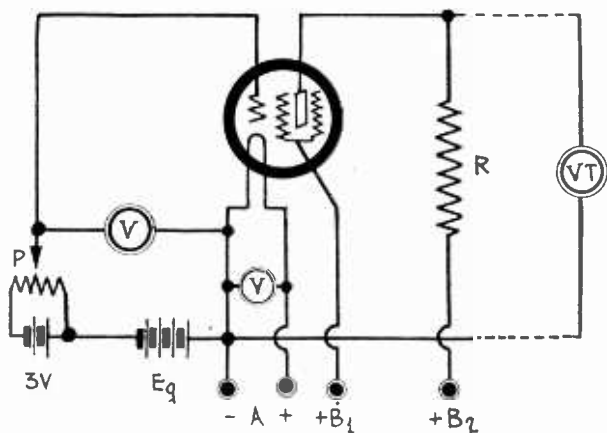
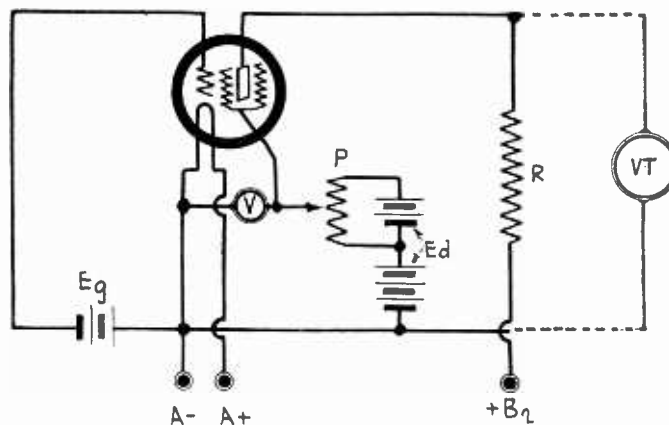
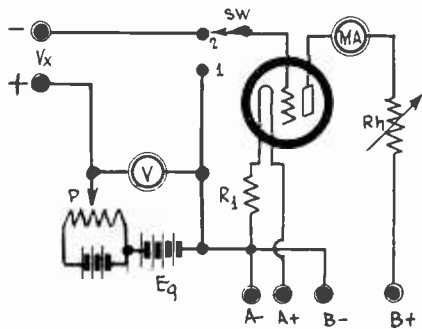

FIG. 60
FIG. 63
FIG. 66
The best way of taking such curves is by means of a circuit such as is suggested in Fig. 60. The voltmeter connected between the control grid and the filament indicates the applied grid bias and the meter across the filament indicates the filament voltage. This voltage should be kept at 2 volts with the aid of a rheostat in the positive filament lead. The rheostat is not shown. R is the load resistance and VT indicates a vacuum tube voltmeter which should be adjusted so that it draws no current.
The arrangement for taking such curves is shown in Fig. 63, in which E_g represents the fixed control grid bias, E_d the adjustable screen voltage, which is measured by means of V, and R represents the plate load on the tube. P is the same 400-ohm voltage divider as was used in Fig. 60, and VT is the same or a similar vacuum tube voltmeter.
The circuit of a vacuum tube voltmeter suitable for measuring the effective plate voltage in circuits of Figs. 60 and 63 is shown in Fig. 66. The tube in this circuit should preferably be a 171A or some other tube having a high mutual conductance. The plate voltage on this tube may have any convenient value
THE CIRCUIT OF A VACUUM TUBE VOLTMETER, UTILIZING PLATE AND BALANCING BATTERIES. THIS CIRCUIT IS SUITABLE FOR TAKING MEASUREMENTS ON THE TUBES IN FIGS. 60 AND 63.
Note carefully the polarity of the unknown voltage terminals. It is the reverse of that in Fig. 66. The method of use of this vacuum tube voltmeter is exactly the same as that of Fig. 66, but the null-point should be checked each time a reading is taken, for it will shift whenever the slider of P is moved. First find an approximate balance, then establish the null-point, and then readjust P for an accurate reading. If the second adjustment of P is considerable, it may be necessary to re-establish the null-point. The need for this can be checked by throwing the grid switch from (2) to (1). If the current changes as indicated by the needle's deviation from the null-point, a readjustment is necessary.
THE CIRCUIT OF A VACUUM TUBE VOLTMETER, UTILIZING A B SUPPLY UNIT FOR THE PLATE AND BALANCING VOLTAGES. THIS ALSO IS SUITABLE FOR USE WITH THE TUBES IN FIGS. 60 AND 63.
A vacuum tube voltmeter of the type shown in Figs. 66 and 67 may be used for measuring any DC voltage whatsoever within the range of voltmeter used, and it is especially suitable for measuring DC voltages wherever it is essential that the measuring instrument take no current from the circuit under measurement. For example, it may be used for measuring the drop in a plate resistor or grid leak resistance, where any current-drawing instrument would give spurious readings. It may also be used for measuring the drop in grid bias resistors and in the sections of a voltage divider, as well as the actual voltage on a grid where there is a high resistance in the grid circuit. The use of the instrument for taking output voltage curves is a case of measuring actual plate voltages when there is a high resistance in the plate circuit.